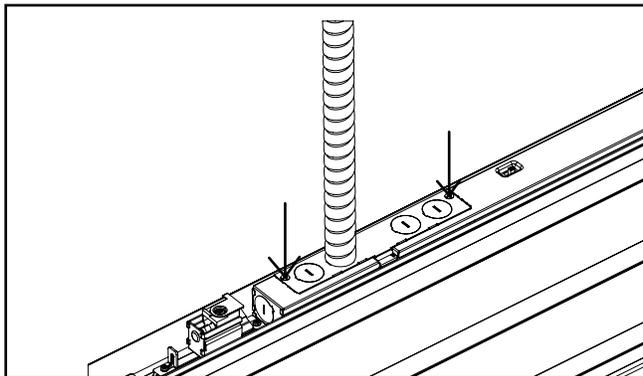

**Figure 14.**
9. Connect the wires from flex conduit to J-box: green to green (ground), white to white (neutral), black to black (hot), Pink and violet wires are provided to connect to a 0-10V dimmer. See Fig.14